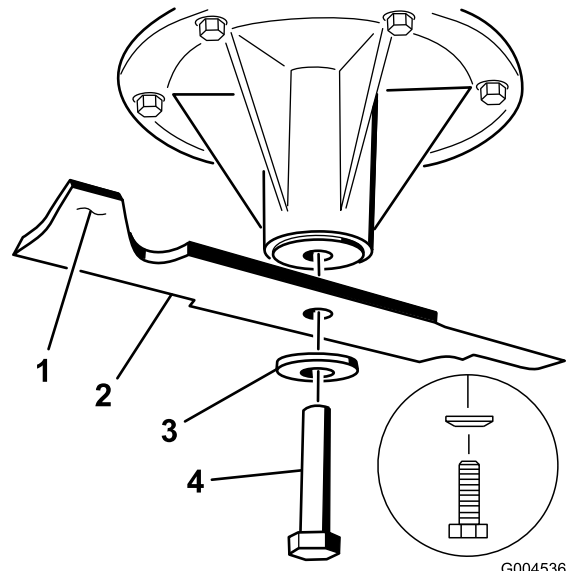

Figure 97
2. Remove the left and center blade bolt, curved washer, and blade from the spindle shaft (Figure 97).